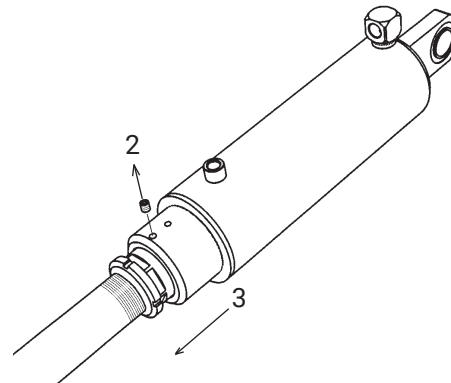

Figure 39. Adjust the ring
2. Loosen the ring's lock screw (2). Screw the ring out in the direction of the platform (3). See Figure 39.